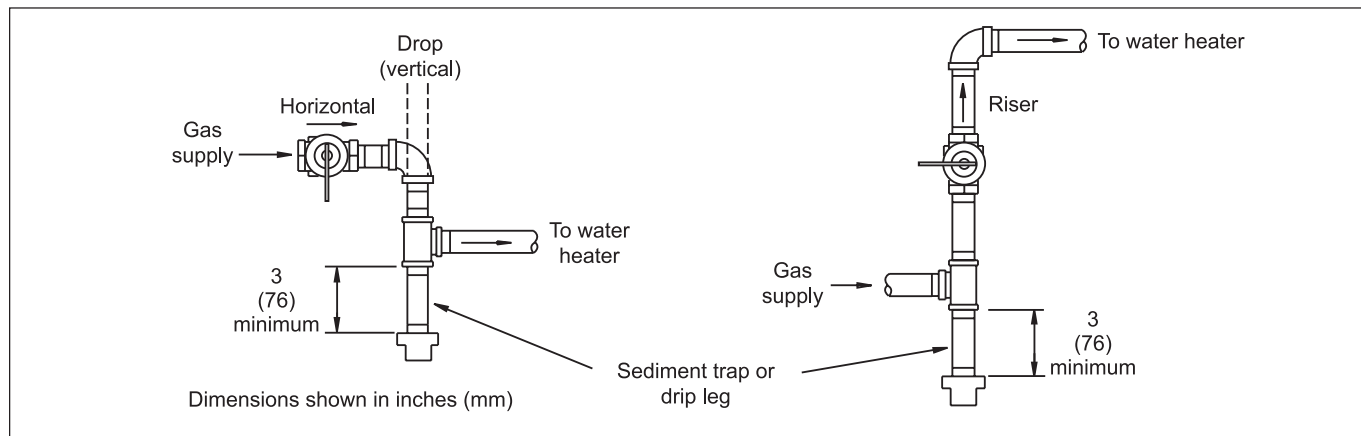

Figure 4. Gas Supply Piping.
4. A sediment trap (drip leg) must be provided ahead of the gas controls (see Figure 4). A manual gas shutoff valve must also be provided for service, convenience and safety. This should be installed about 5 feet (1.5 m) above the floor. Check the local codes.